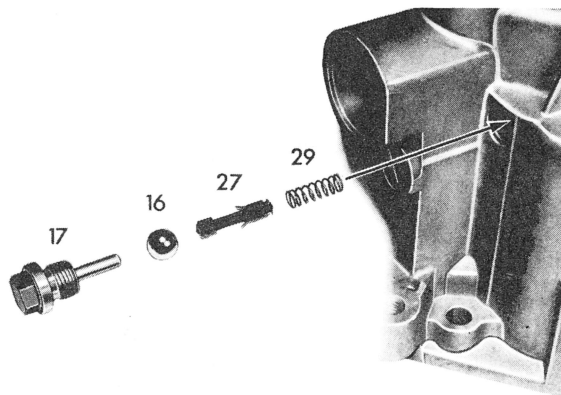

Fig. 6
**12** Unscrew closing plug (17) and remove steel ball (16) (Fig. 6).